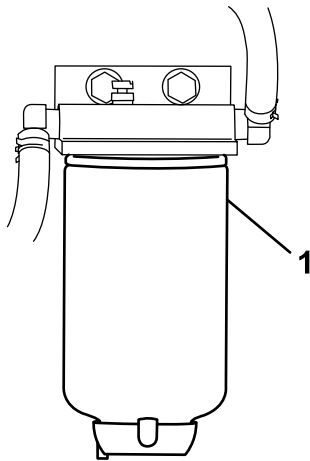

Figure 38
3. Unscrew the fuel filter from the bracket (Figure 38).